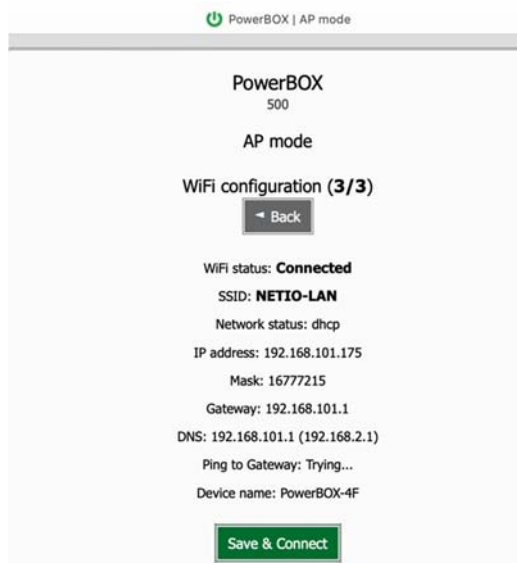
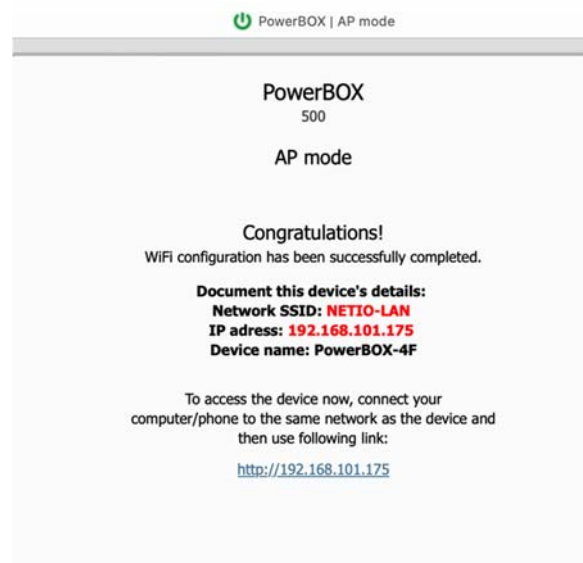

Figure 5
Figure 6
- A page with the connection result is displayed. If it shows “WiFi status: Connected“, check the network parameters and then click “**Save&Connect**” to save the configuration. (Figure 5) The device then exits the AP mode, connects to the selected WiFi network, and displays a network configuration summary page. (Figure 6) WiFi connection is indicated with the yellow LED.